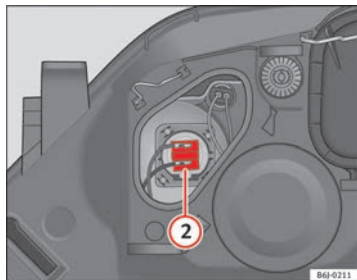

Fig. 140 Main beam headlights
- Remove connector ⇒ fig. 140 ② by pulling outward.